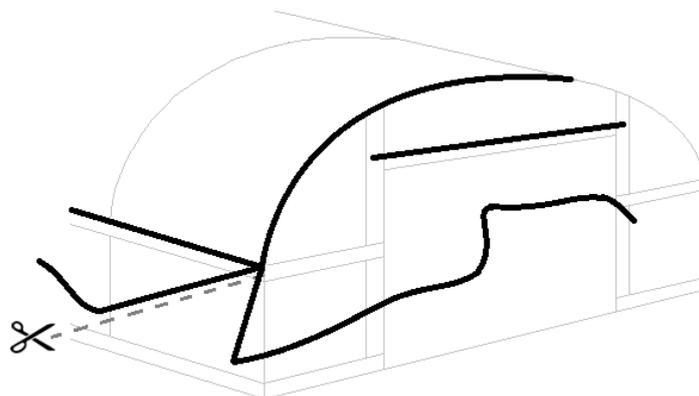

Fig46
- **STEP 3:** With just the four corners and the End Frames left, it will now be necessary to cut the Polythene at the corners, but **ONLY** below the Side Rails, to allow the cover to come smoothly around the ends (**Fig46**). It is important that the cover is cut in line with the end of the Sheep House, **NOT** the length.